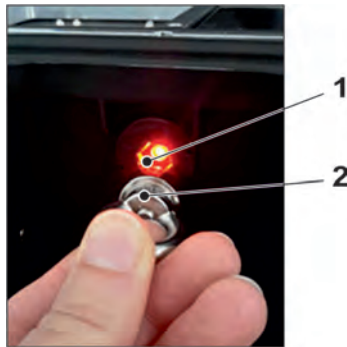

Fig. 30-10 Waking up the NivuLevel Mobile
2. “Wake up” NivuLevel Mobile: to do this, hold the supplied magnet (Fig. 30-10 Pos. 2) in front of the Reed contact (Fig. 30-10 Pos. 1; at the front of the NFM) until the LED lights up.